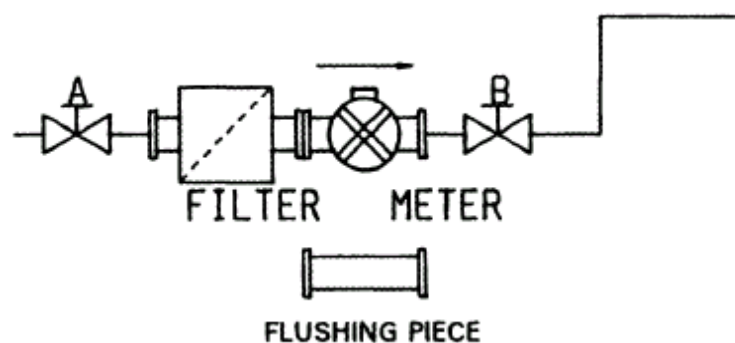

Fig. 18, Flow meter system without bypass
1. Close valves A and B (Fig. 18).